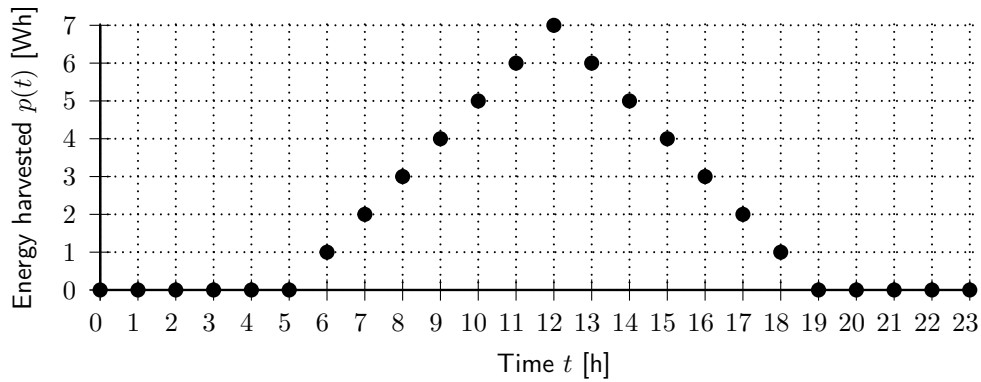
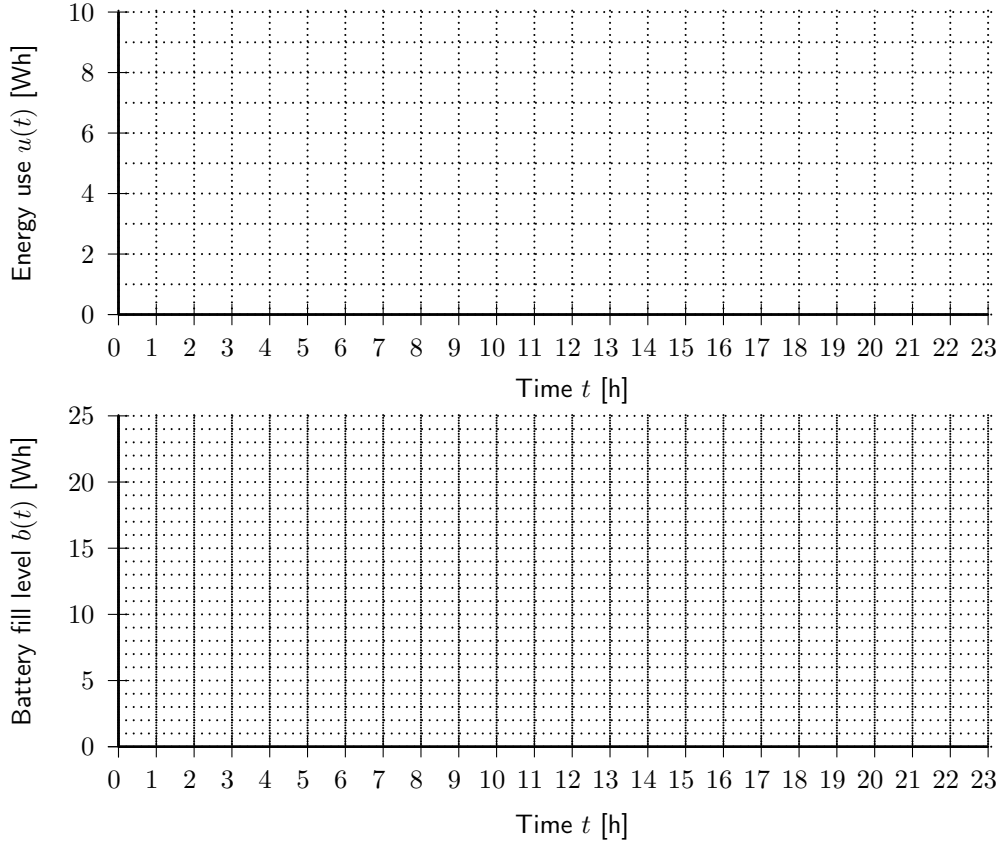

Figure 4: Energy harvesting profile $p(t)$ for a daily cycle. The values of $p(t)$ are all integers.
Figure 5: Energy harvesting profile $p(t)$ for a daily cycle. The values of $p(t)$ are all integers.
1. Consider the energy harvesting profile $p(t)$ given in Figure 4 that repeats daily. What is the maximum average power $\widehat{u_{\max}}$ that can be used by the system?
2. Given the knowledge of the daily energy input profile $p(t)$ in Figure 4, calculate the minimal battery size B_{\min} such that the used energy satisfies $u(t) = 2$ for every time interval during a day. Complete the diagram in Figure 5 with the daily evolution of the used energy $u(t)$ and the battery charge state $b(t)$ at the beginning of the interval for the found battery size B_{\min} .